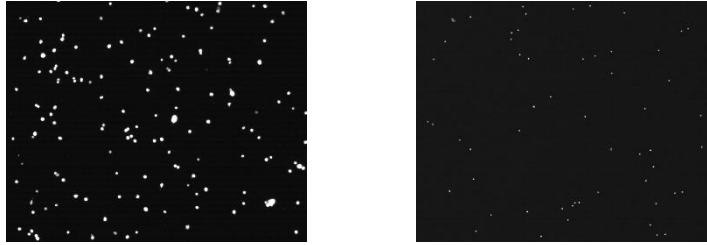

Figure 3: Example of post-bind AO/DAPI stained HEK cells (left) and PBMCs (right).
- After fixation, the cells are permeabilized and should appear dead with viability stains. We recommend Trypan Blue for all counting up until the bead binding step. After the beads are bound, we recommend using fluorescent staining such as Acridine Orange/Propidium Iodide (AO/PI) or Acridine Orange/DAPI (AO/DAPI) (Figure 3).